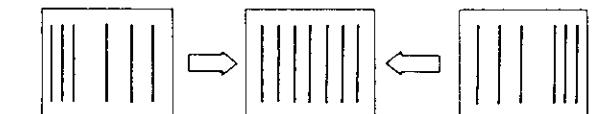

Fig. 28-8
3. Adjust the balance of H.lineality with H.L.B (RV22) on the DA board as shown in Fig. 28-8.